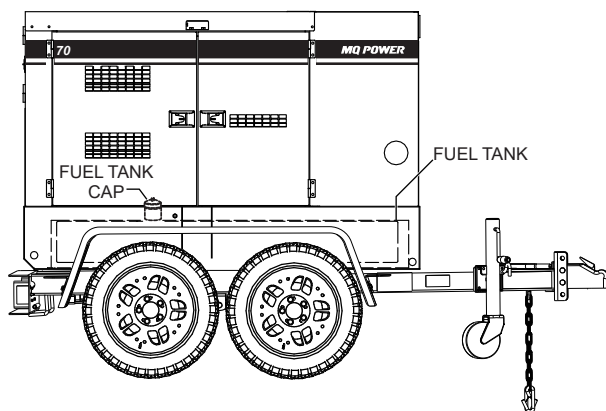

Figure 25. Fuel Tank
**ALWAYS** fill the fuel tank (Figure 25) with clean, fresh **#2 diesel fuel**. **DO NOT** fill the fuel tank beyond its capacity.